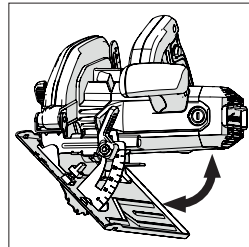

Fig. 14
- Tilt the blade to the required angle as indicated on the quadrant protractor scale. (Fig. 14)